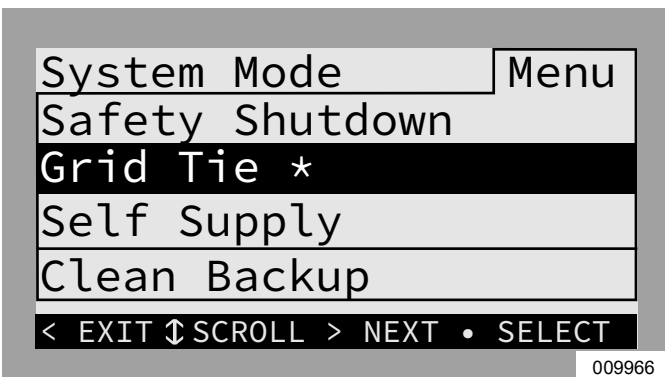

Figure 6-3. Selecting System Modes (1 of 4)
2. See Figure 6-3. A list of system modes will be displayed with the current mode marked with an asterisk.
NOTE: The list of modes may not include all those shown in Figure 6-3.